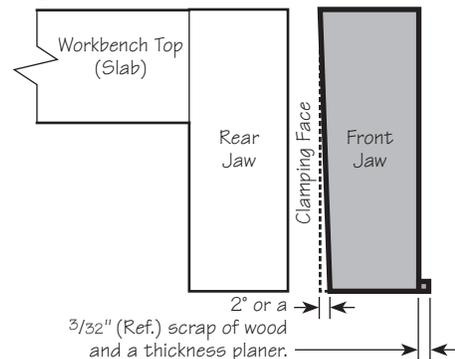

Figure 10: Front jaw taper.
- Remove the vise front assembly, then the front jaw from the vise front assembly. **Do not remove the carriage or rear jaw from the bench.** If required, trim the jaws to length and drill any desired 3/4" dia. bench dog holes. Plane a 2° taper on the **clamping** face of the **front** jaw, so that it is thinner at the bottom than at the top, as shown in **Figure 10**. This will ensure that pieces clamped in the vise will always be gripped at the top of the jaws. This can be achieved by using a hand plane or a belt sander. Or, by temporarily adding a scrap of wood to the opposite side (using glue or double-sided tape), the jaw can be passed through a thickness planer.